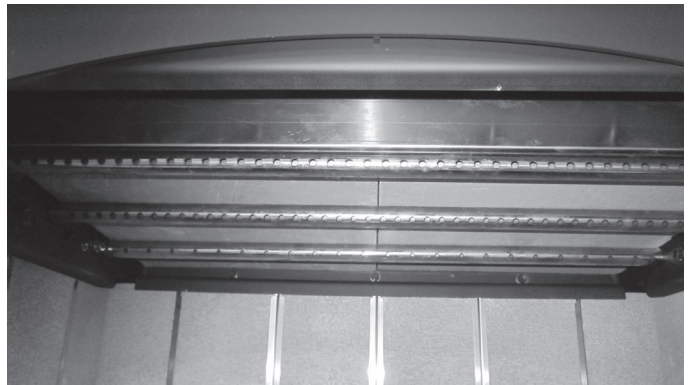

Figure 4.8 Reinstall Baffle Boards
6. To install the baffle board and insulation, repeat steps 2 thru 5 in reverse. Be sure the baffle board and insulation are pushed back fully and the insulation is down and flat. See Figures 4.8 & 4.9.